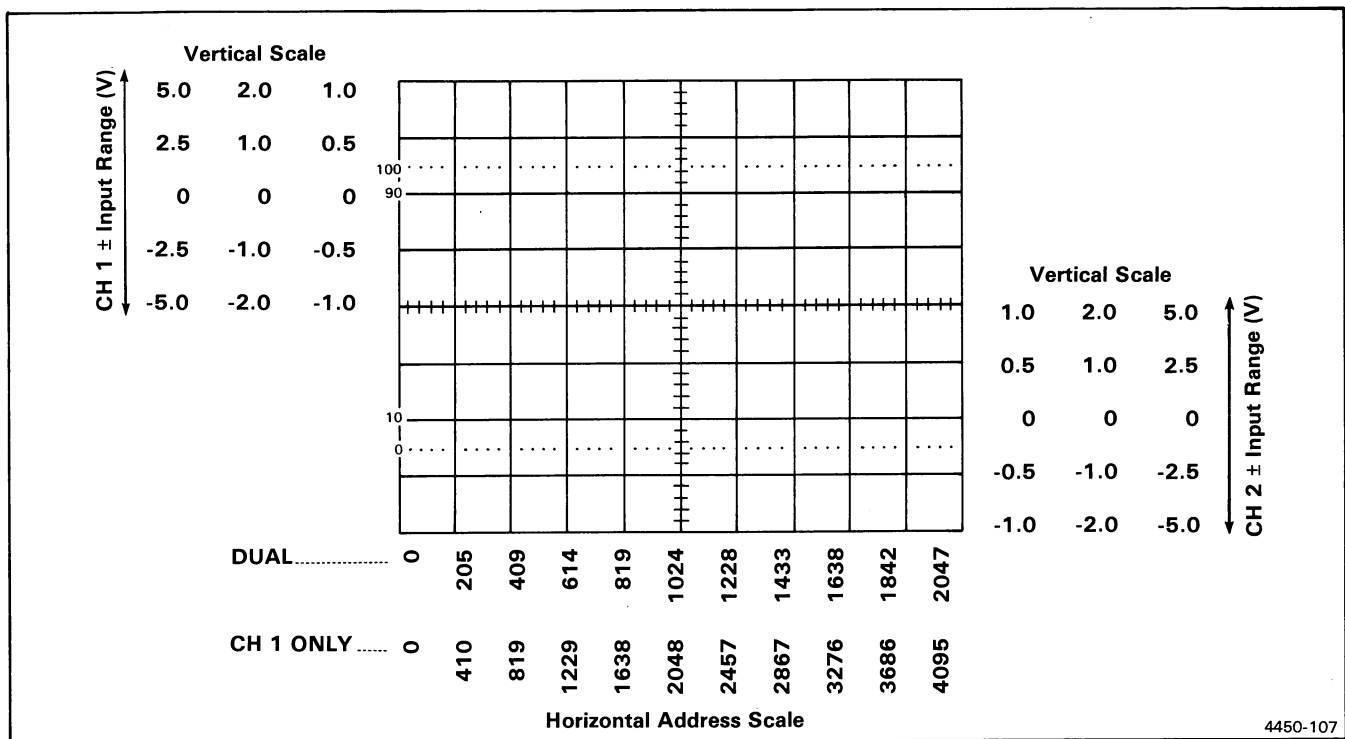

Figure 1-5B. Scale readings on monitor with full-scale set for 4 divisions.
If Channel 1 and Channel 2 are to be used separately, adjust the monitor vertical (Y) GAIN control so that the clipped waveform occupies half of the graticule space. See Figure 1-5B. Verify that the 390AD vertical position controls and the monitor vertical position controls are at approximately mid-range.
Figure 1-5B shows scale readings for a four-division display of two waveforms (CH 1 and CH 2) with Gnd levels set at the 2nd and 6th divisions of the vertical scale.